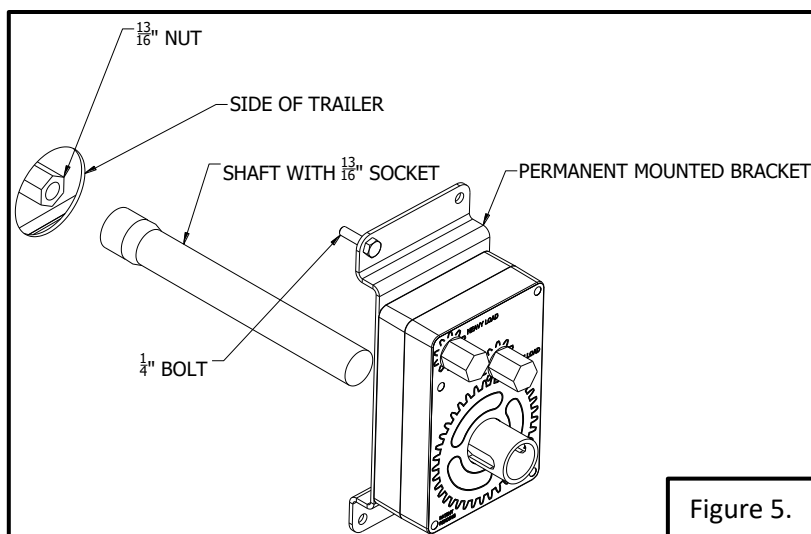

Figure 5.
2. Slide the Michel's EZ-Lift onto the input shaft of the landing gear and secure with the supplied quick pin. Refer to Figure 5. **Note:** The EZ-Lift can easily be removed by removing the quick pin and can be used on other trailers. If the EZ-Lift is to remain attached to the landing gear, Michel's recommends using a bolt to secure it to the output shaft. **Please Note:** On some trailers, the EZ-Lift can make the trailer over the Legal Width and **MUST** be removed after use.